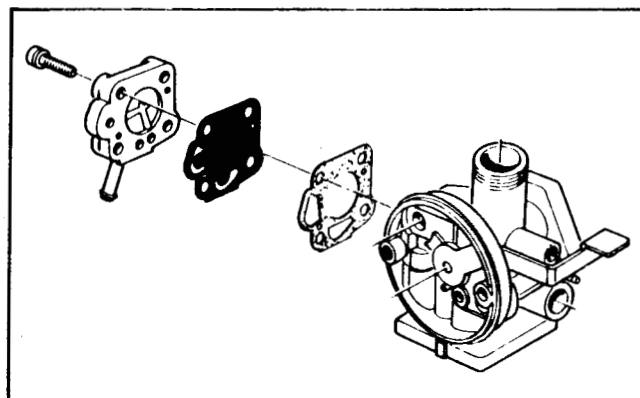

Figure 31
10. Replace the fuel diaphragm pump parts by installing the pump cover gasket against the carburetor, the pump diaphragm against the pump cover gasket, the pump cover against the pump diaphragm and securing these pieces with the 4 screws with lock washers. See Fig. 31.